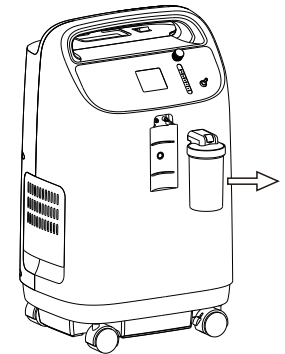

Figure 10
Pull out the humidifier in the direction shown in the figure 10.
- Pull out the humidifier in the direction shown in the Figure 10.